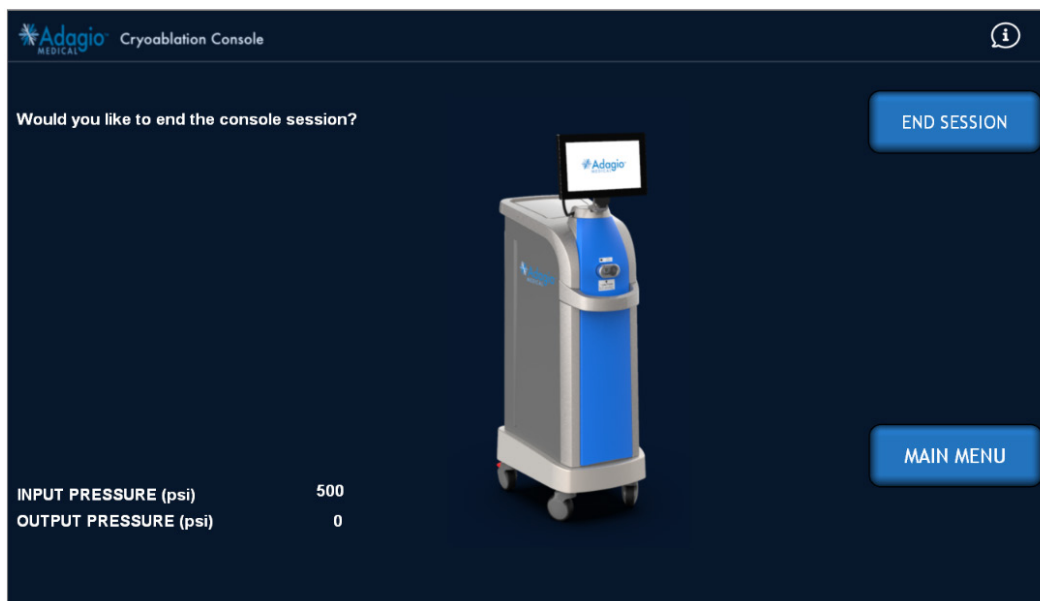

Figure 107 – Console Shutdown – Confirmation to End Session Screen Image
1. Confirm to end the console session by pressing “END SESSION” in the below screen (*Figure 107*).